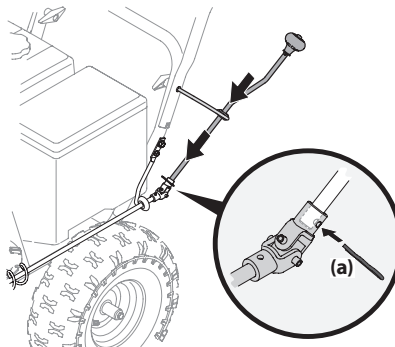

Figure 2-19
2. Insert unattached chute directional control assembly into eye bolt on left side of handle assembly. See Figure 2-19.
3. Line up holes in the end of unattached chute directional control assembly with holes in U-joint attached to lower chute directional control assembly. Insert cotter pin (a). See Figure 2-19. If necessary, bracket securing lower chute directional control assembly to chute base can be adjusted. Refer to Chute Bracket Adjustment in Service section on page 25.